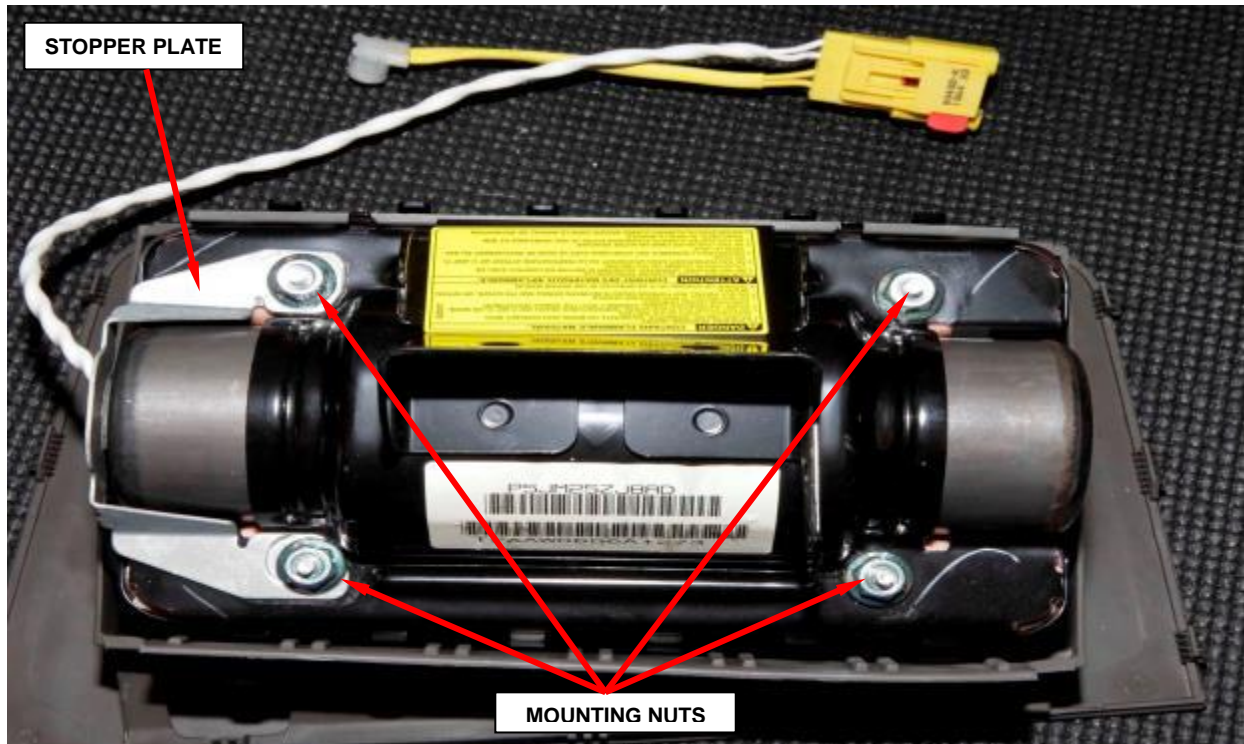

Figure 71 – Mounting Nuts and Stopper Plate
e. Remove and **discard** the four mounting nuts and stopper plate from the passenger airbag module (Figure 71).